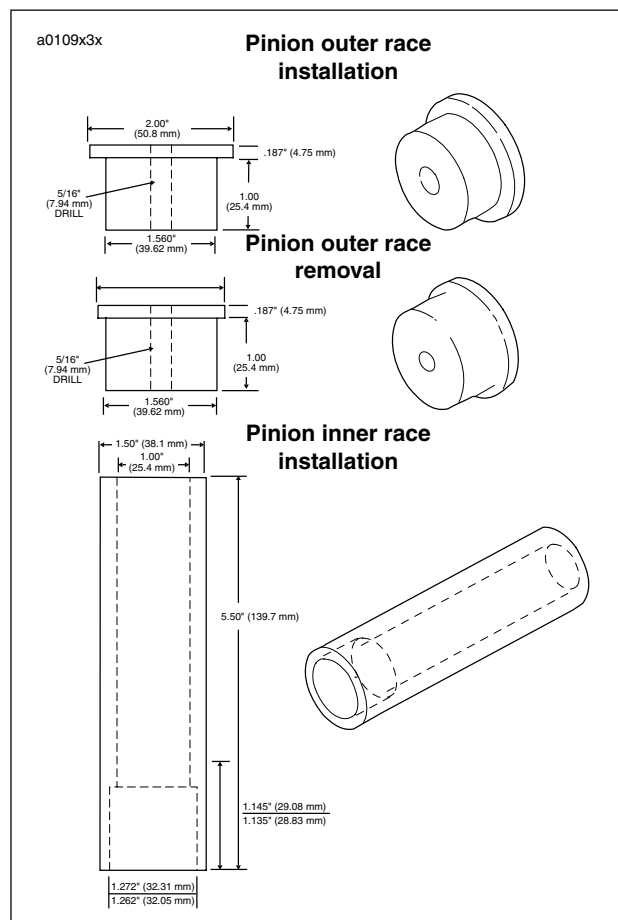

Figure 3-119. Pinion Shaft Bearing Tools
- See Figure 3-119. Dimensions are shown for fabrication of tools used in pressing the outer race into or out of crankcase.
8. Press **new** inner race on pinion shaft as shown. The **new** inner race must be ground by a competent machinist to OD dimension range for the finished lapped ID of the outer race. Refer to Table 3-35. The finished inner race must meet these specifications. For necessary dimensions for constructing a press-on tool see Figure 3-119. When the tool bottoms against the flywheel, correct inner race location is automatically established.